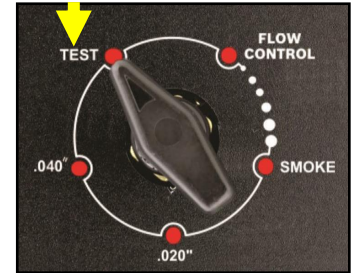

Figure 1
- B. Position tester's **Control Valve** on **TEST** mode. (Figure 1)